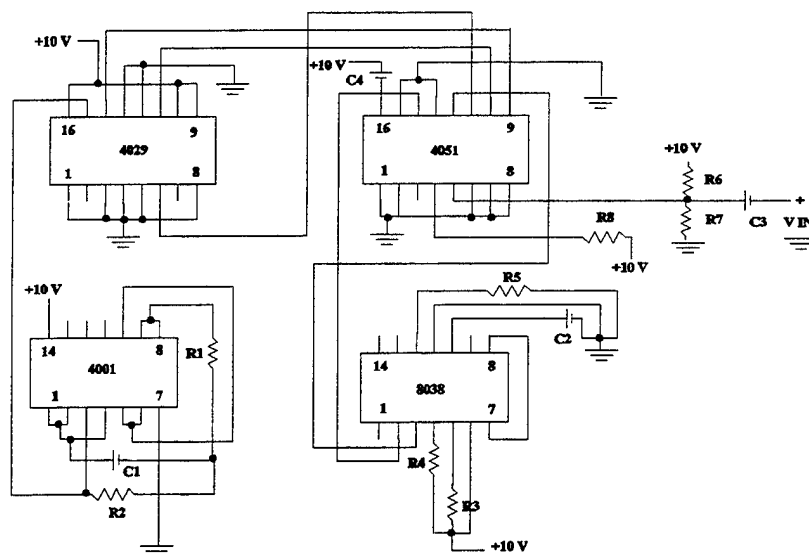

Figure 2
a) Construct the TDM circuit of Figure 2. The CD4051 multiplexor in this circuit provides the commutator function. The commutator combines four signals into a TDM signal. The TDM inputs are four signals: triangle wave at pin 14, two sine waves at pins 12 and 5, and a DC voltage at pin 4. Apply a 5 Vpp, 30 Hz sine wave to Vin. Q: Using